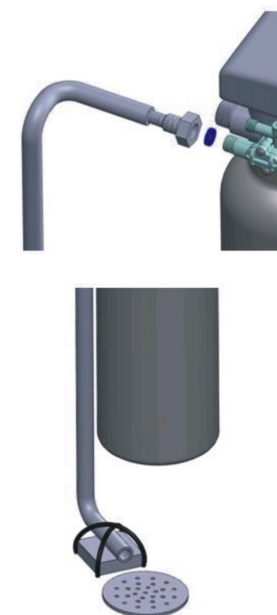

Figure 1-4
⑤Install drain pipeline
a. As the Figure 1-4 shows, slide the drain hose connector into drain outlet.
d. Locate the drain hose well as the Figure1-4 show.
- Be sure not connect drain with sewer, and leave a certain space between them, avoid wastewater be absorbing to the water treatment equipment, such as showed in the Figure1-4.